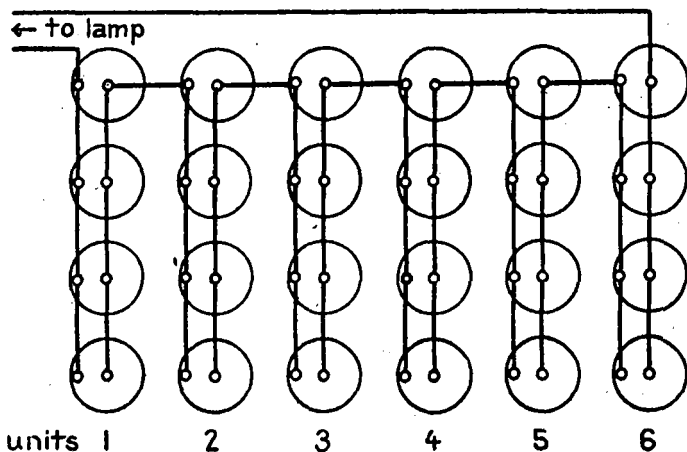

FIGURE 3
Figure 3, on page 22, shows the series-parallel connection, which is the one used with the larger-sized bulbs and which should be thoroughly studied by the light keeper.
in series six of these units. Figure 3 shows a combination frequently used for lighting the large bulbs, where there are 24 batteries so connected that there are 6 units connected in series, each unit consisting of 4 batteries in parallel. If weight is a serious consideration, the number of batteries in a unit may be reduced from four to three.
6. To avoid any confusion in the connections, place all poles of the cells in a certain direction, as shown in figure 3. If cells with the Fahnstock clip are used, straight wires can be employed as connectors and the wiring simplified, but they are often not available except when ordering in large lots.